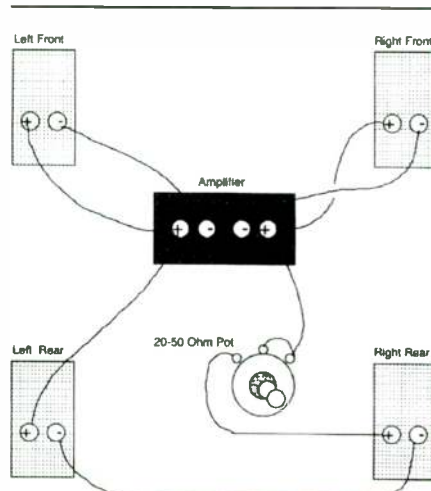

FIGURE 1: Matrix decoding.
The simplest setup for surround is to feed the out-of-phase information from a recording to a set of rear speakers. "Ambience" sounds, such as hall reverberation or background noise in soundtracks, naturally occur out of phase in most recordings. Putting information out of phase is intentional on many pop recordings because such music isn't localized like in-phase material. Extracting this information is easy; *Fig. 1* shows one sample configuration.
**WARNING:** This circuit (*Fig. 1*) can cause problems with certain amplifier types, whose instruction manuals warn you about connecting their channels together. Check if